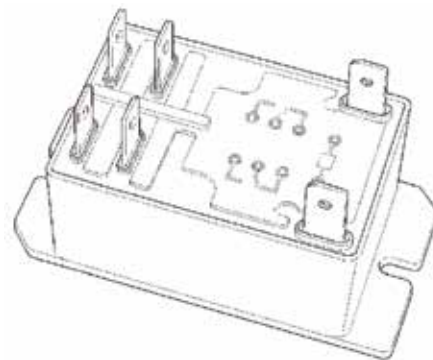

Figure 5-20. Relay
1. Disconnect any wires to the relay, or completely remove it from the control box (**Figure 5-20**).
2. With the ohm meter still on the contact terminals, apply 12VDC to the coil terminals of the relay (**Figure 5-20**).